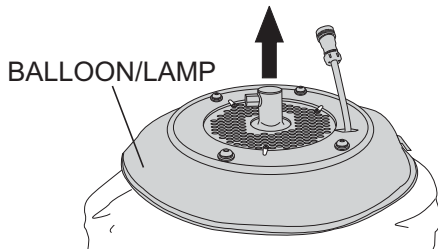

Figure 26. Balloon/Lamp Placement
3. Rotate the balloon/lamp base assembly so that the filter is facing upwards. See Figure 26.